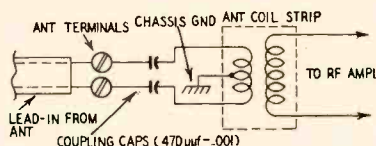

Fig. 7—A shorted antenna coupling capacitor can make the antenna hot to ground.
4. Cases of shock have resulted from touching a TV antenna and an external ground, such as a metal pipe on the roof. This occurs in series-filament sets when there is a shorted coupling capacitor between the transmission line and the antenna coil in the tuner (Fig. 7). The antenna is connected directly to the chassis through the shorted capacitor and part of the antenna coil. The chassis, in turn, connects to the hot side of the ac line either directly or through the filament string.